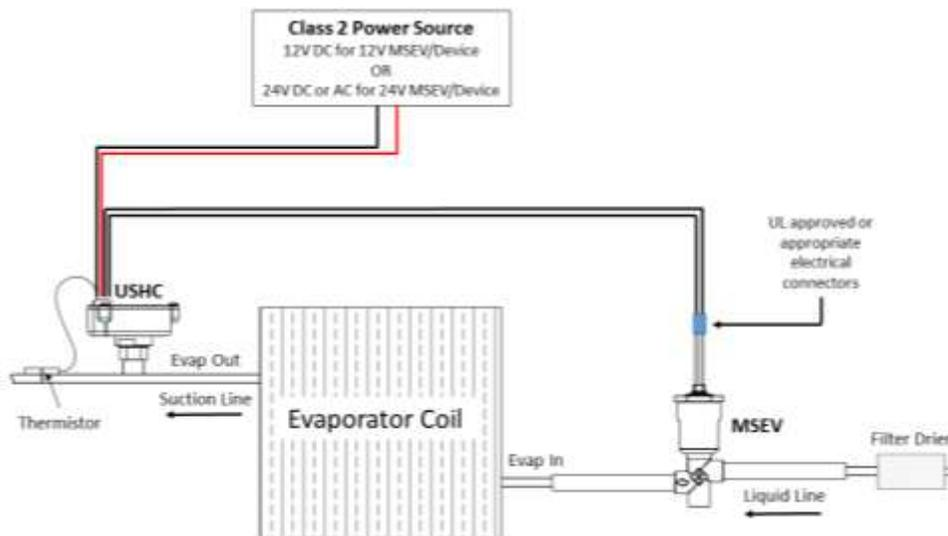

Figure 10 - MSEV and USHC installation schematic
This section describes the mechanical installation of the MSEV and USHX Figure 10 below shows an example of a typical system the MSEV and USHX devices would be integrated into. Like conventional thermostatic expansion valves (TXVs) or electronic expansion valves (EEVs), the MSEV is installed at the inlet of the evaporator. The USHC, which drives and controls the MSEV, is installed at the outlet of the evaporator, in place of the TXV bulb or EEV controller sensing device. The MSEV and USHC are connected together by a wiring harness. A thermistor at the outlet of the evaporator measures the temperature, and the USHC is powered by the Class 2 power source.
7. It is mandatory to install a brand new filter drier at the inlet of the MSEV as indicated in Figure 10. It can be installed at about 6" away from the MSEV. The MSEV must be protected against contaminants to ensure its optimal operation.